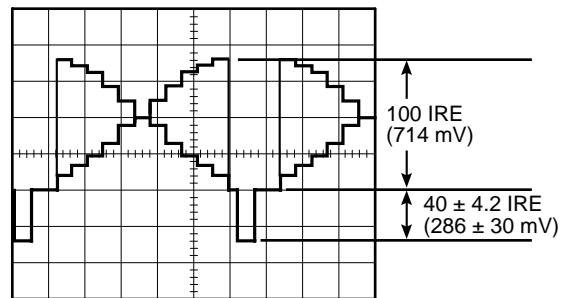

Fig. 5-6
- Adjust VR2 so that the Video signal level becomes 100 IRE (714 mV) as shown in Fig.5-6, and confirm that the Sync signal level is 40 ± 4.2 IRE (286 ± 30 mV) as shown in Fig. 5-6.